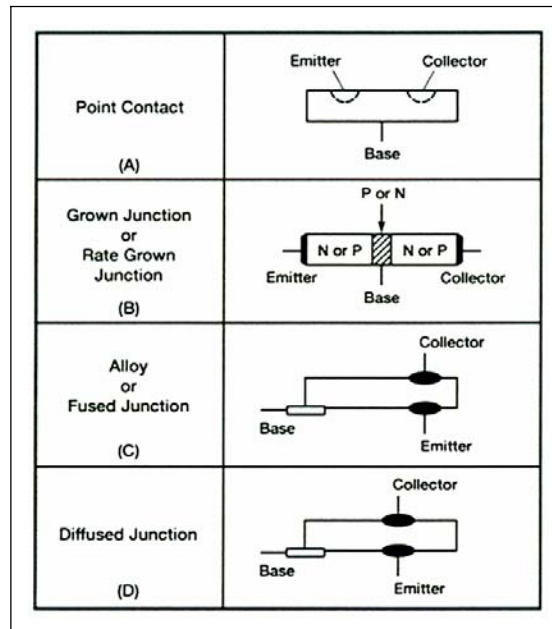

Figure 2-4. Transistor Constructions
2-10. The very first transistors were known as point-contact transistors. Their construction is similar to the construction of the point-contact diode covered in chapter 1. The difference is that the point-contact transistor has two P or N regions formed instead of one. Each of the two regions constitutes an electrode (element) of the transistor. One is named the emitter and the other is named the collector (see Figure 2-4, view (A)).
and voltage gains, and can be mass-produced more cheaply than the point-contact transistor. Junction transistors are manufactured in much the same manner as the PN junction diode covered in chapter 1. However, when the PNP or NPN material is grown (see Figure 2-4, view (B)), the impurity mixing process must be reversed twice in order to obtain the two junctions required in a transistor. Likewise, when the alloy junction (view (C)) or the diffused junction (view (D)) process is used, two junctions must also be created within the crystal.